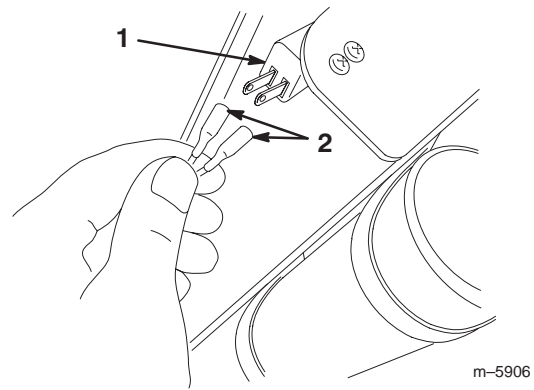

Figure 4
6. Connect the right-angled insulated terminals to the switch (Fig. 4).